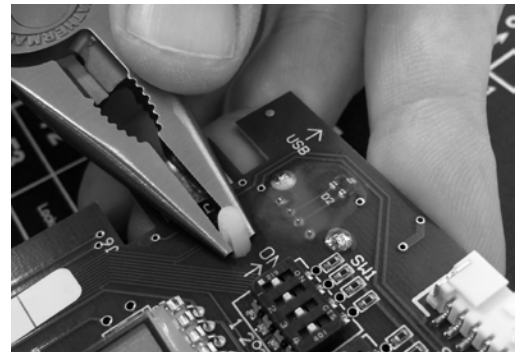

Figure 2
3. Using needle-nose pliers, squeeze the plastic retaining posts inward and pull up on the display board. Repeat for the three remaining posts (Figure 2).